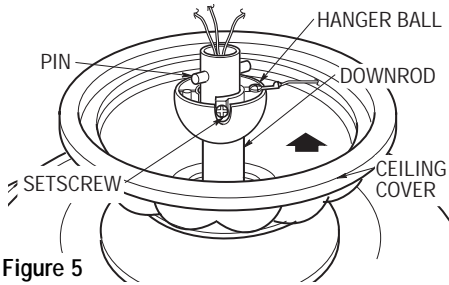

Figure 5
- 5. Reinstall the hanger ball (Figure 5) on the downrod as follows. Route the three 80" motor leads through the hanger ball and slide the hanger ball over the downrod. Position the pin through the two holes in the downrod